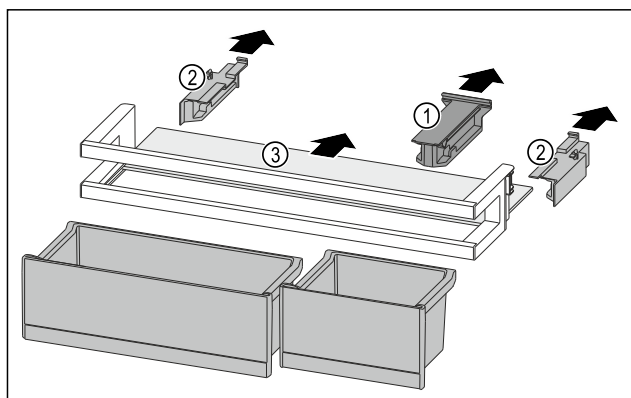

Fig. 122
- Pull off the retaining part Fig. 122 (1).
- Pull off the side part Fig. 122 (2).
- Remove the shelf Fig. 122 (3).